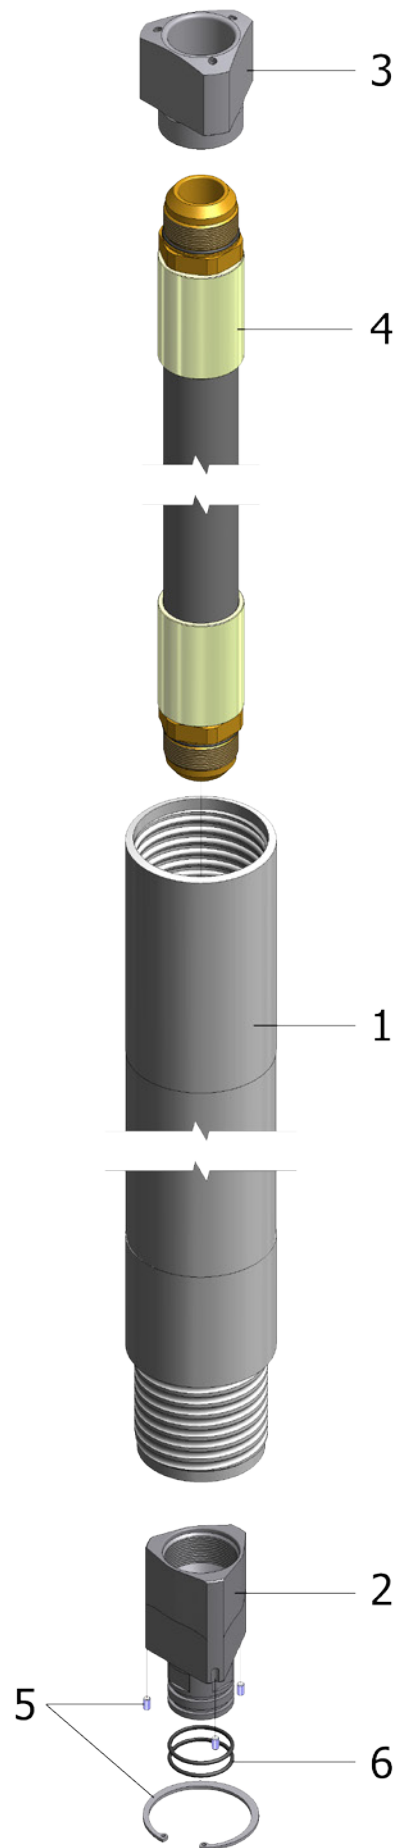

FIG. 3.11
D.114 C2 ROD (INNER RUBBER HOSE): J-1C212100 (L=1000); J-1C212150 (L=1500); J-1C212200 (L=2000); J-1C212300 (L=3000) (REF. FIG. 3.11)